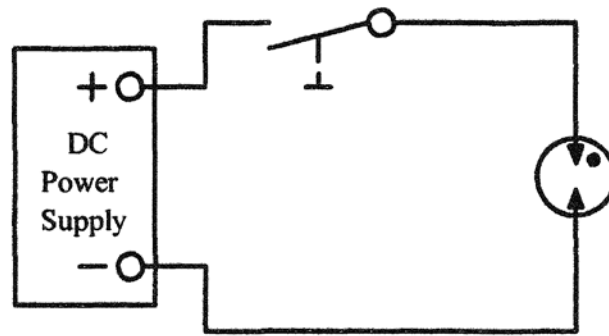

Figure 6
2. Connect one neon lamp across the power supply as shown in Figure 6.